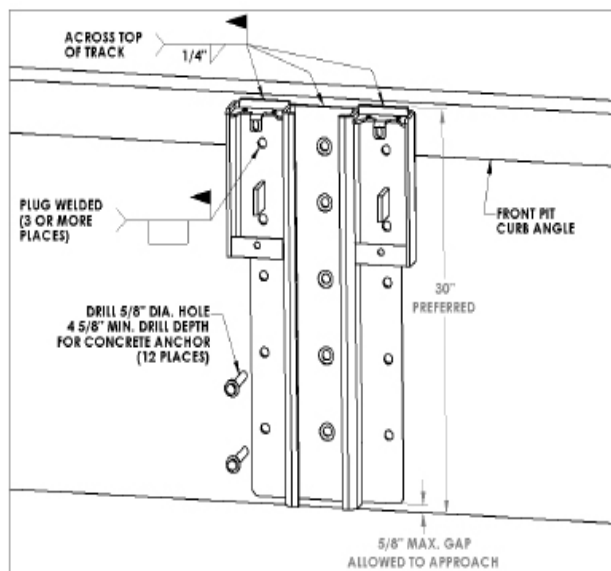

FIGURE 3—ANCHORING ROLLER TRACK
Install roller track onto dock face at specified location by welding to an embedded steel plate or by using the fifteen (15) concrete anchors provided in conjunction with welding to pit steel and a leveler frame. Refer to Figures 3, 4, and 5.
4. Install all anchors and torque to 60 ft-lbs. See Figure 3.